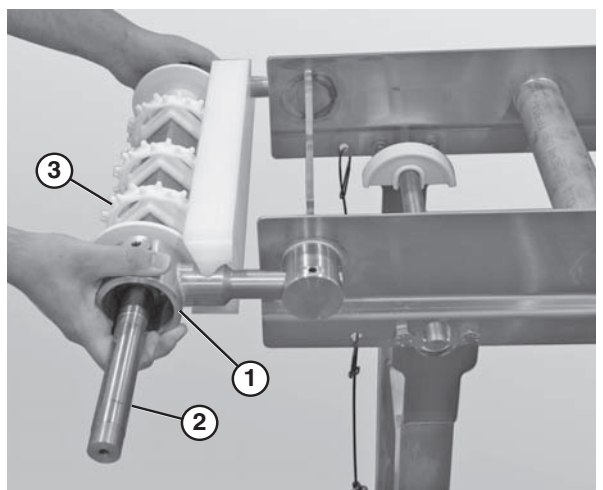

Figure 70
7. Slide the drive tail assembly out of the take up blocks (Figure 70).
8. Slide the motor support bracket (Figure 70, item 1) off the drive spindle (Figure 70, item 2).
9. Remove the sprockets (Figure 70, item 3).